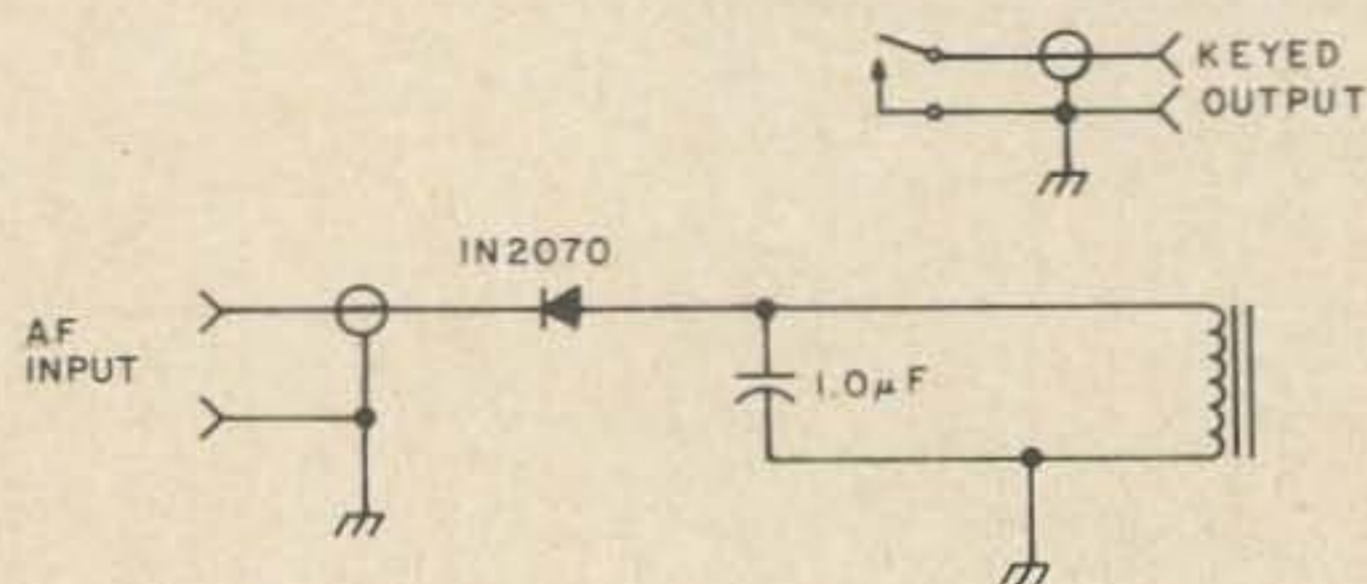

Fig. 3. Use this circuit to build independent unit.
Fig. 3. Modification to allow use of polar capacitor (c) in one-shot timing circuit, and timing resistor (R) larger than 50K. Q₁ = 2N3565 (Fairchild) or HEP55 (Motorola).
the timing of IC₂ (Fig. 3) should be used. This circuit modification also allows the use of timing resistors larger than 50K, and so makes possible really long pulses.
In case you don't use a keyer with a negative dc supply (with respect to ground), or want to build this second operator independent of the keyer, just use the circuit as shown in Fig. 3. It can be built into a small minibox, with no power requirement, or it could be built into the tape recorder becom-